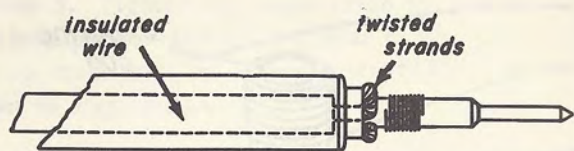

Fig. 2-24
Step 4. Pull the end out as far as it will go and then bend the wire around the shank, just under the lip that appears above the hole, as shown in Fig. 2-24.